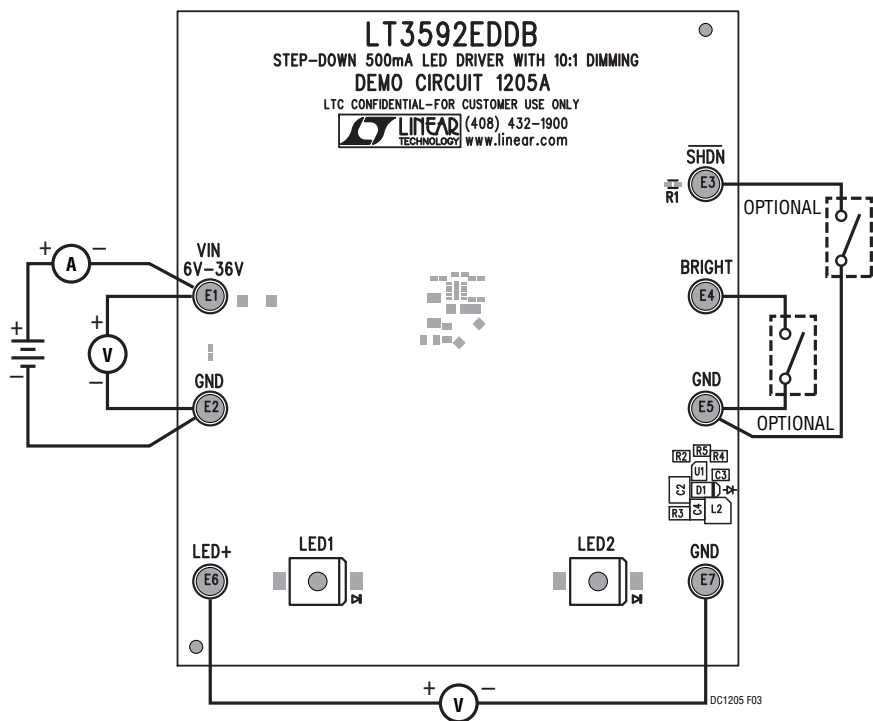

Figure 3. Proper Measurement Equipment Setup
Demonstration circuit 1205A is easy to set up for evaluating the LT3592 36V step-down 500mA LED driver with 10:1 dimming. Follow the test procedure outlined below and see Figure 3.
1. Set up DC1205A as shown in Figure 3 with hand-held multimeters, and a bench supply (power turned off) with voltage greater than the LED string (approximately 3.5V to 5V) and less than 36V.